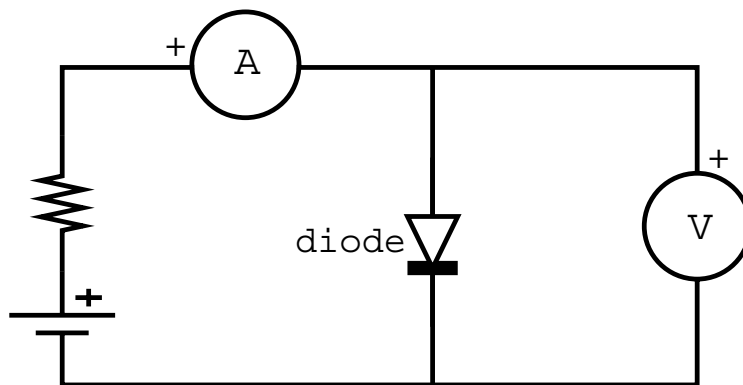
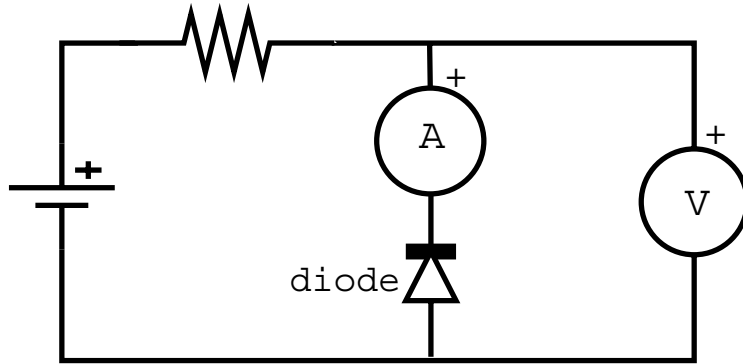

Figure 9: Circuit for measuring the forward characteristic of a diode
Figure 10: Circuit for measuring the reverse characteristic of a diode
Circuits for measuring the forward and reverse characteristics of a diode are shown in Figures 9 and 10. Note the different placement of the DC milliammeter in the two circuits. In Figure 9, the milliammeter is actually measuring the sum of the currents in the diode and in the voltmeter. The voltmeter current is usually negligible compared to the large forward current of the diode. However, if the diode is reversed, then the diode current would approach zero, and the small current through the voltmeter would dominate the milliammeter's reading. For this reason, it is preferable to use the circuit shown in Figure 10 for the reverse diode.
1. Set up the circuit in Figure 9 to study the forward behavior of a semiconductor diode. Begin with the DC milliammeter on the 10 mA range and the resistor box set to about 1 k Ω .
8. Set up the circuit shown in Fig. 10 and observe the inverse behaviour of the diode.